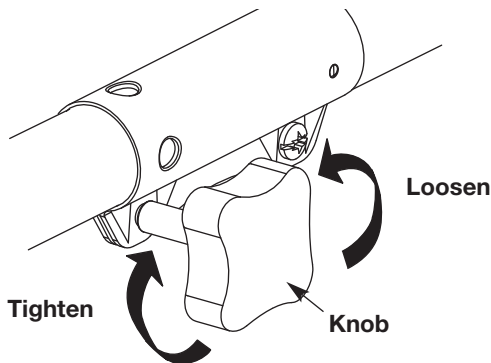

Fig. 1
2. Turn knob counterclockwise to loosen (Fig. 1).
4. Turn the knob clockwise to tighten (Fig. 1).
1. Turn the knob counterclockwise to loosen (Fig. 1).